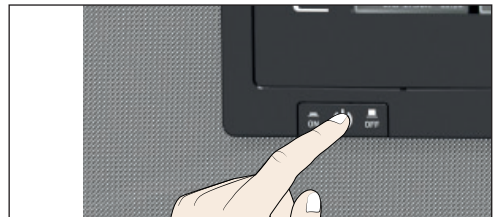

Fig. 19 Switch off appliance
- Switch off the appliance with the main switch (Fig. 19).